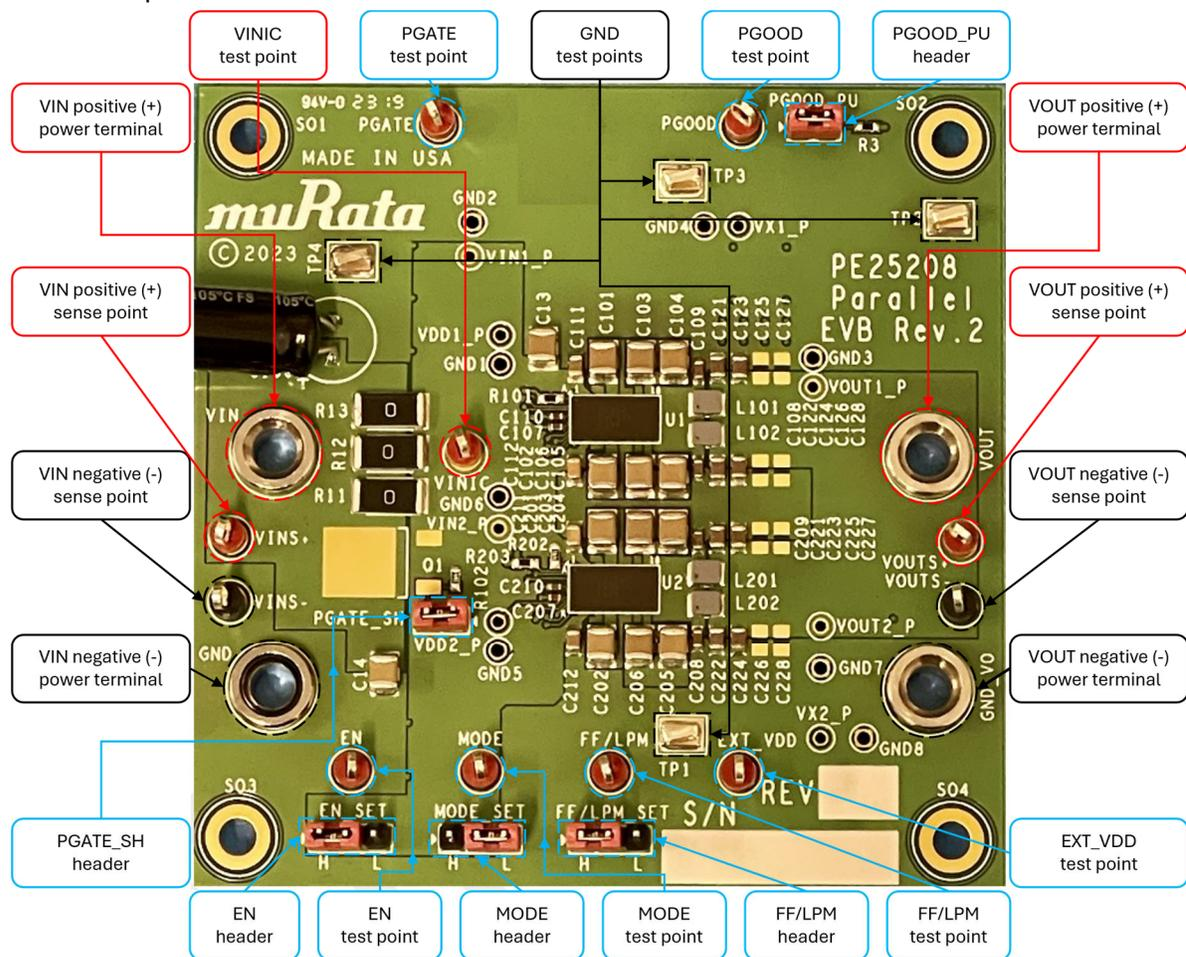

Figure 2. PE25208 Parallel EVK Hardware Interfaces
The PE25208 parallel EVK has four power terminals, as shown in Figure 2:
The three configuration headers on the PE25208 parallel EVK include the following, as shown in Figure 2:
The PE25208 parallel EVK has two connection headers, as shown in Figure 2:
- To take accurate input voltage measurements, use the VIN positive (+) sense point (VINS+) and VIN negative (-) sense point (VINS-), as shown in Figure 2.
- To take accurate output voltage measurements, use the VOUT positive (+) sense point (VOUTS+) and VOUT negative (-) sense point (VOUTS-), as shown in Figure 2.
Table 5 lists all test points on the PE25208 parallel EVK, as shown in Figure 2.